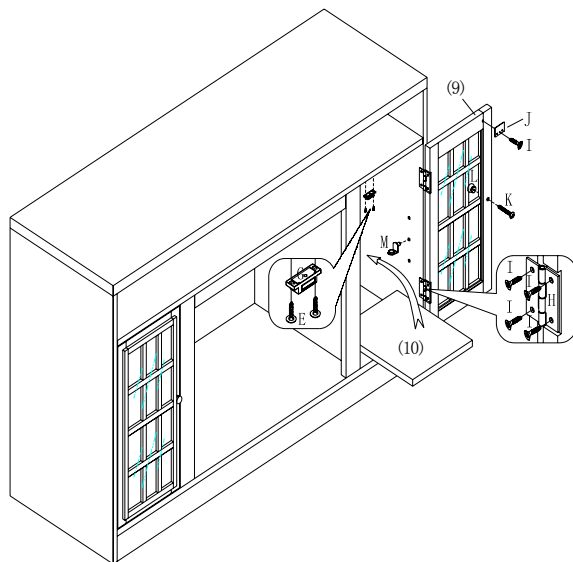

Figure 5
USE 4PCS ROUND HEAD SCREW TO SECURE MAGNET LOCK (G) ON UNIT AS FIGURE 5 SHOWN.
INSERT 8PCS SHELF HOLDRE(M) INTO CORRESPONDING HOLES OF MIDDLE FIXED PANEL(3) ,THEN PUT THE SHELF PANEL ON IT ,AS FIGURE 5 SHOWN.